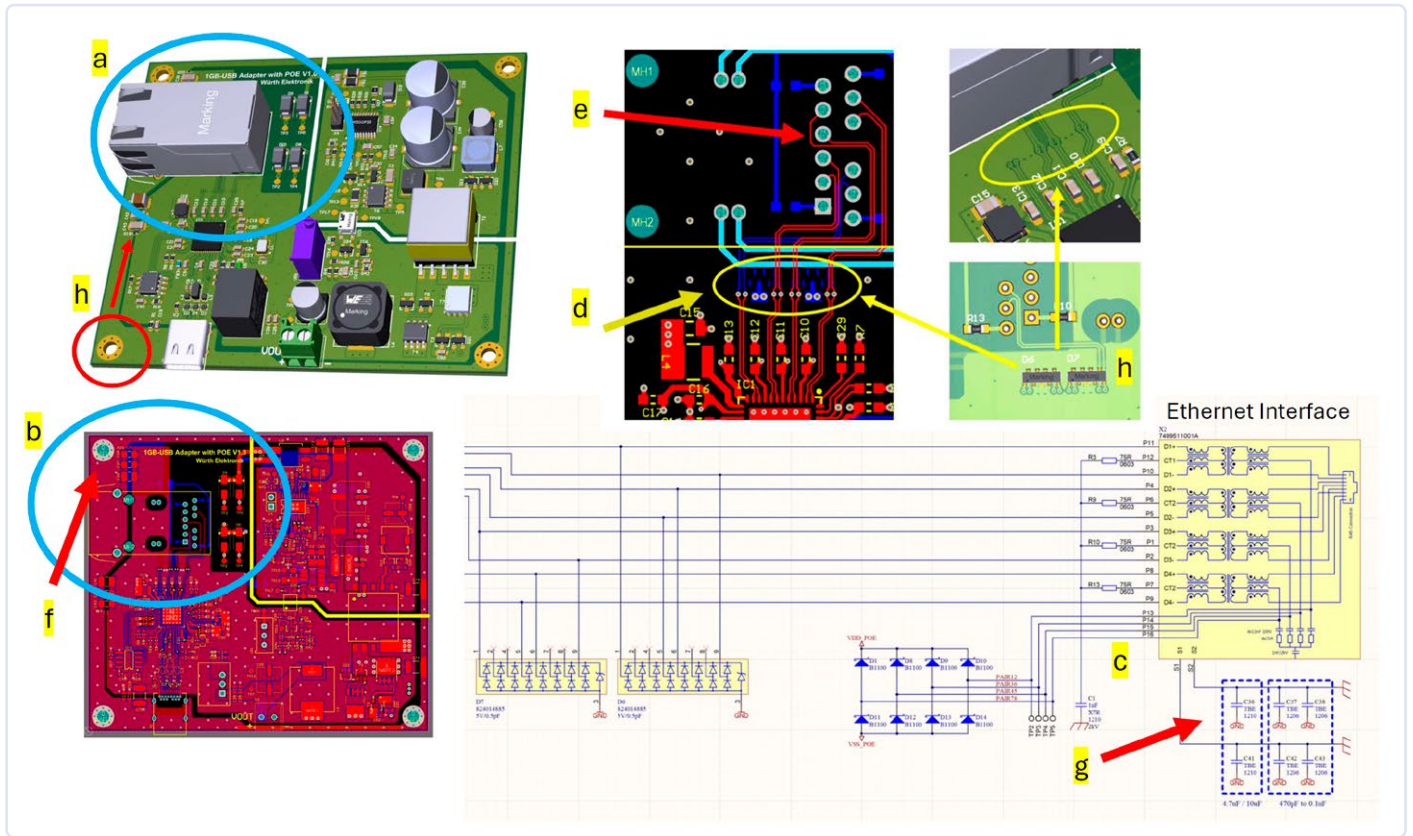

Figure 2: Important structural points of an electronic module (interface area).
1. **Layout design:** a careful layout design is crucial to ensure signal integrity and minimize electromagnetic interference. This includes minimizing signal paths, avoiding mismatches, placing components with sufficient distance to each other and using grounding and earth planes [1]. An overview is shown in **Figure 2**.
The module in Figure 2 is a GB-Ethernet front end with “Power Over Ethernet”. The Ethernet connection (a) is made via a socket with an integrated interface (c), which contains transformers, matching networks and CM chokes. This shielded module, together with the board mountings (h) are the basis for a ground reference and a low impedance connection to a sheet metal housing. In addition, for installation in a plastic housing, the housing ground/PCB grounding system